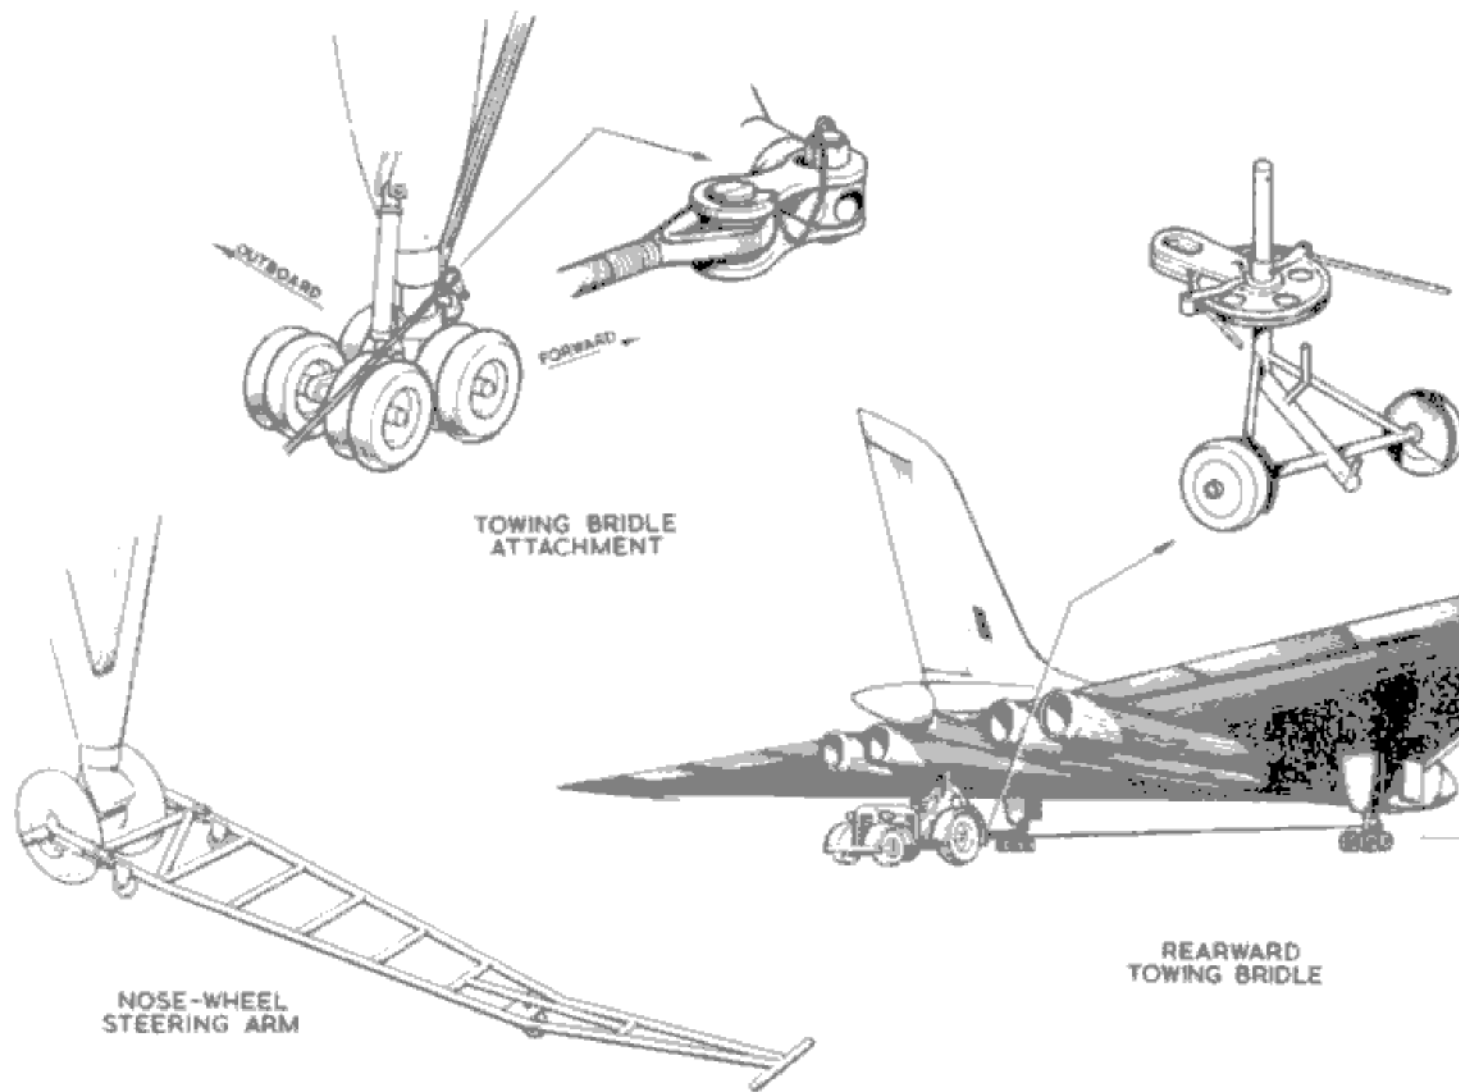

Fig. 3. Rearward towing
3. The aircraft is towed backwards (fig.3) by attaching a V-type bridle